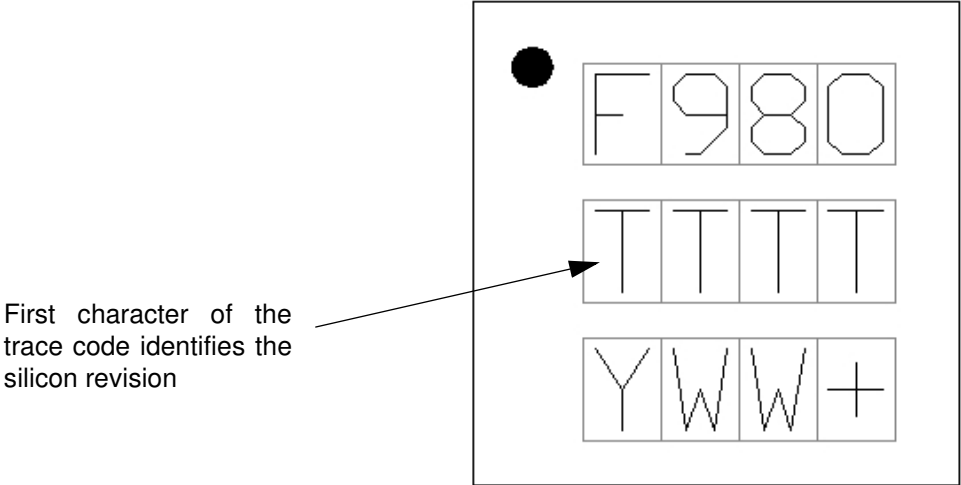

Figure 3.4. QFN-20 Package Marking Diagram
**Note:** Starting with silicon revision C, the ordering part numbers have been updated to include the silicon revision and use this format: "C8051F990-C-GM". Package marking diagrams are included as Figure 3.4, Figure 3.5, and Figure 3.6 to identify the silicon revision.